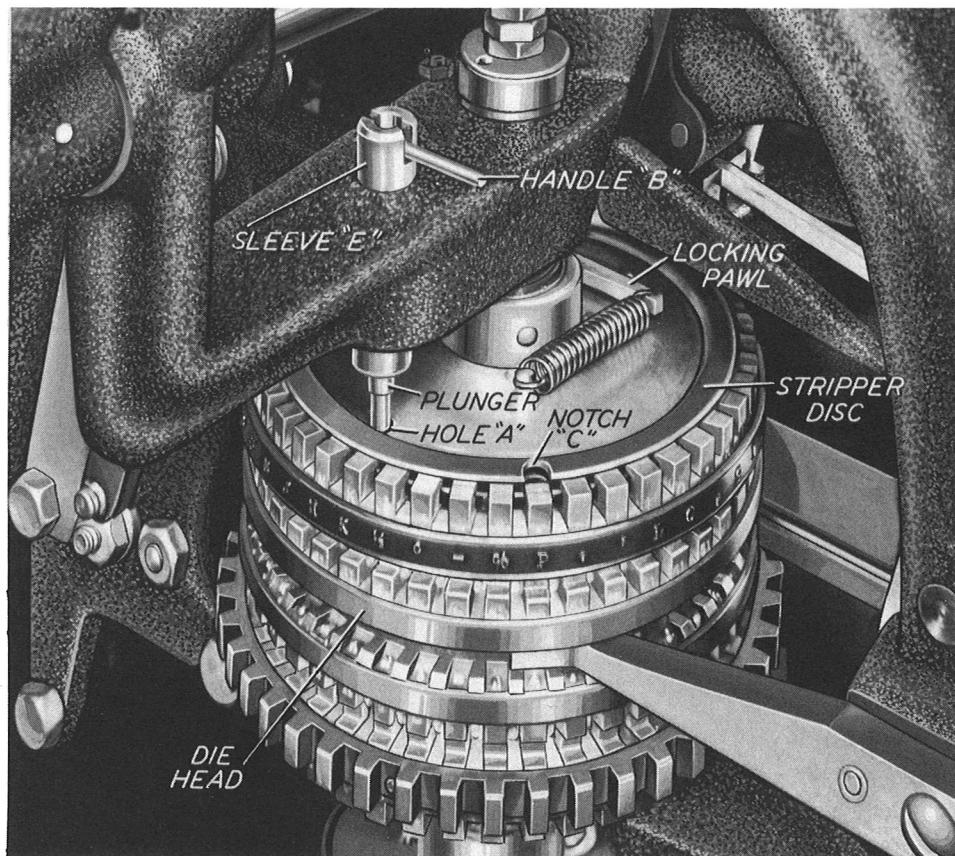

FIGURE 10. View of Class 6340 Die Head
1. Facing the rear of the machine turn the die head by hand until the hole "A" (figure 10) in the stripper disc is directly beneath the bottom end of the plunger, as shown in figure 10.
2. Lower the plunger by turning the handle "B" until it locates in the *deep* slot in the sleeve "E", as shown in figure 10. This will permit the lower end of the plunger to drop into the hole "A" in the stripper disc.
3. Turn the die head clockwise until the die to be replaced is located directly beneath the notch "C" (figure 10) in the stripper disc. Then remove the die by pushing it upward through the notch "C" in the stripper disc. NOTE: With the plunger located in the hole in the stripper disc, more effort will be required when first starting to turn the die head. However, after it is disengaged from its locking pawl, the die head will then turn with comparative ease.